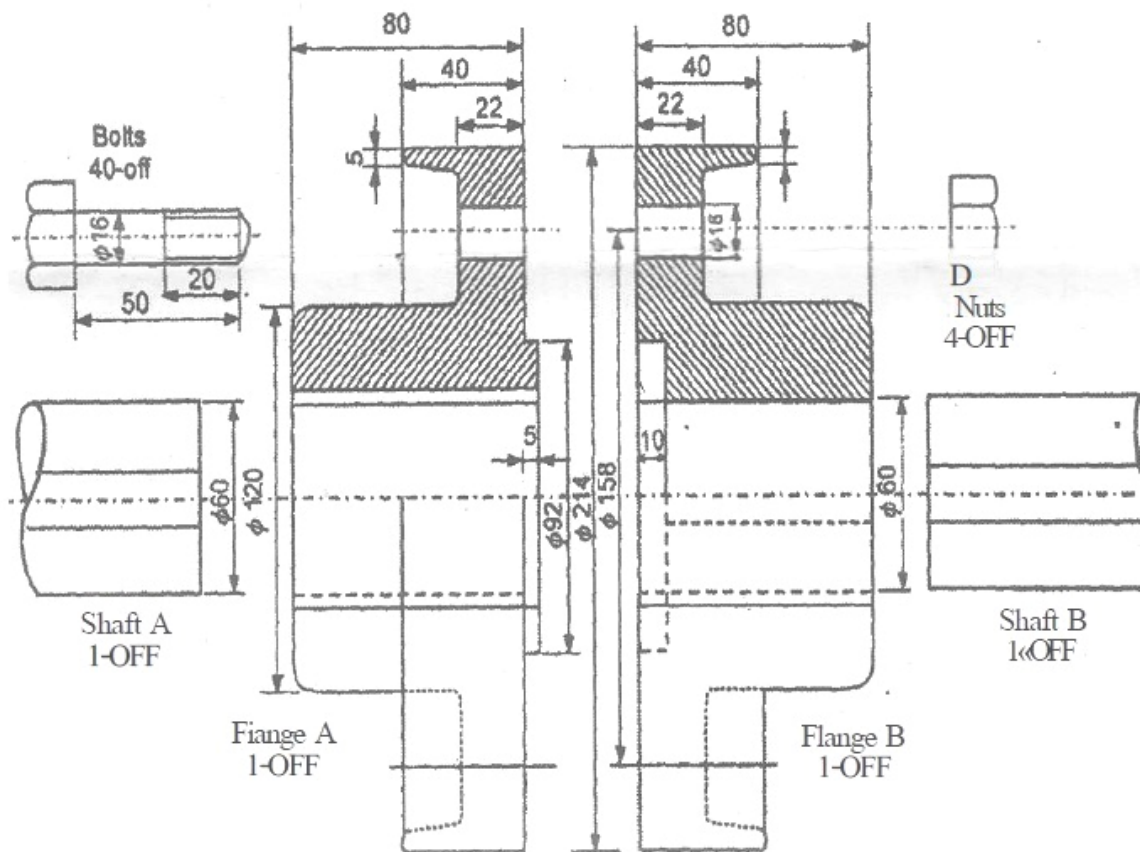

FIG.1
8. Fig. 1 shows the two views of a protected type flanged coupling. Draw the following views on full scale :